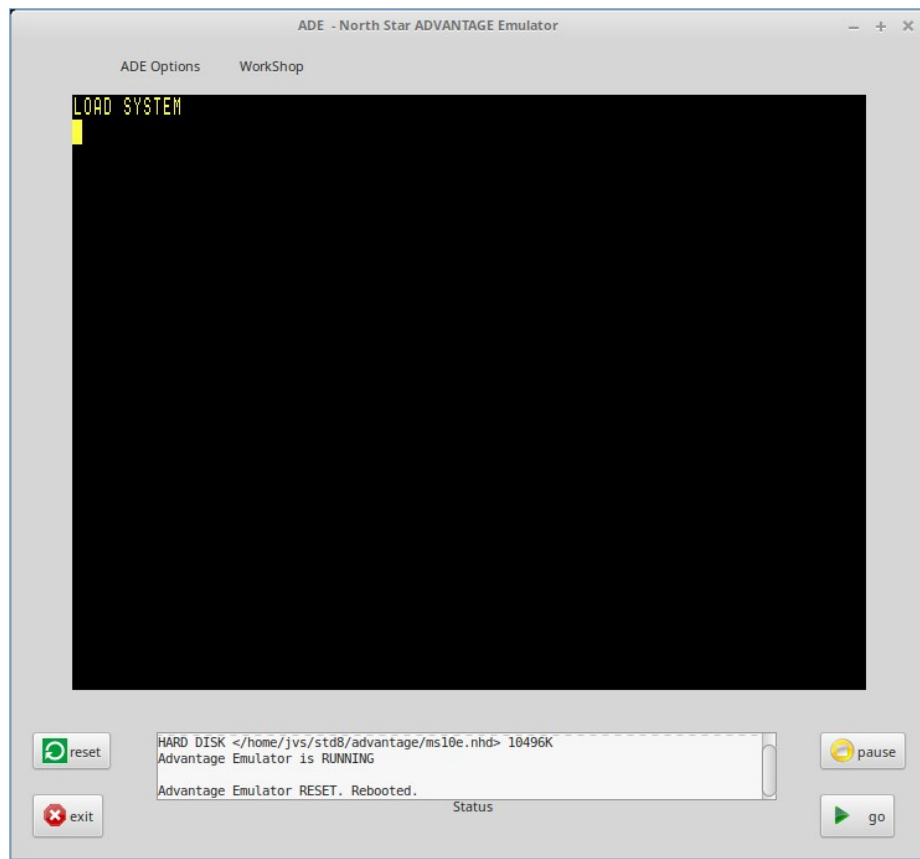

Fig. 2. After hitting 'go' button. "LOAD SYSTEM" screen. Z80 Emulator running. Hit 'enter' key to boot from floppy disk. Yellow screen output.
- Fig. 2, Page 9: 'LOAD SYSTEM' Boot-Up Screen.